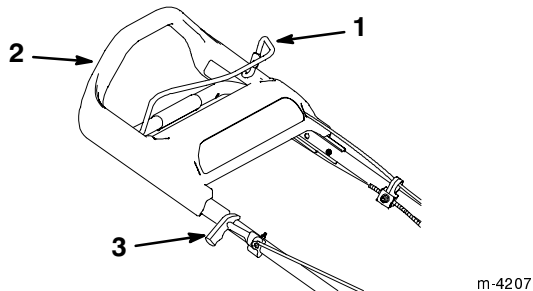

Figure 8
The starter handle and the blade control bail are on the upper handle as shown in Figure 8.
3. Hold the blade control bail against the upper handle (Fig. 8).
4. Pull the starter handle lightly until you feel resistance, then pull it sharply (Fig. 8). Allow the rope to return to the handle slowly.